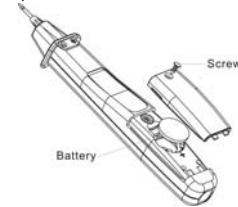

Figure 4
**Maintenance** (see figure 4)